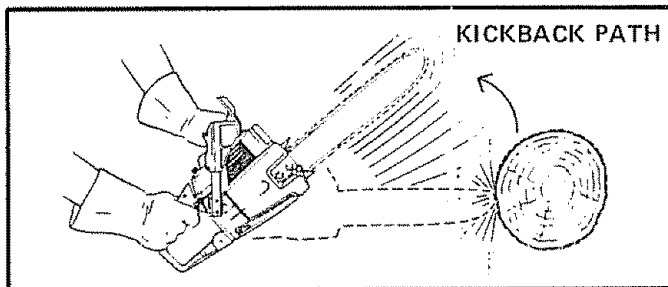

Figure 15
- Avoid letting the moving chain at the tip of the guide bar contact any object.** Figure 15.